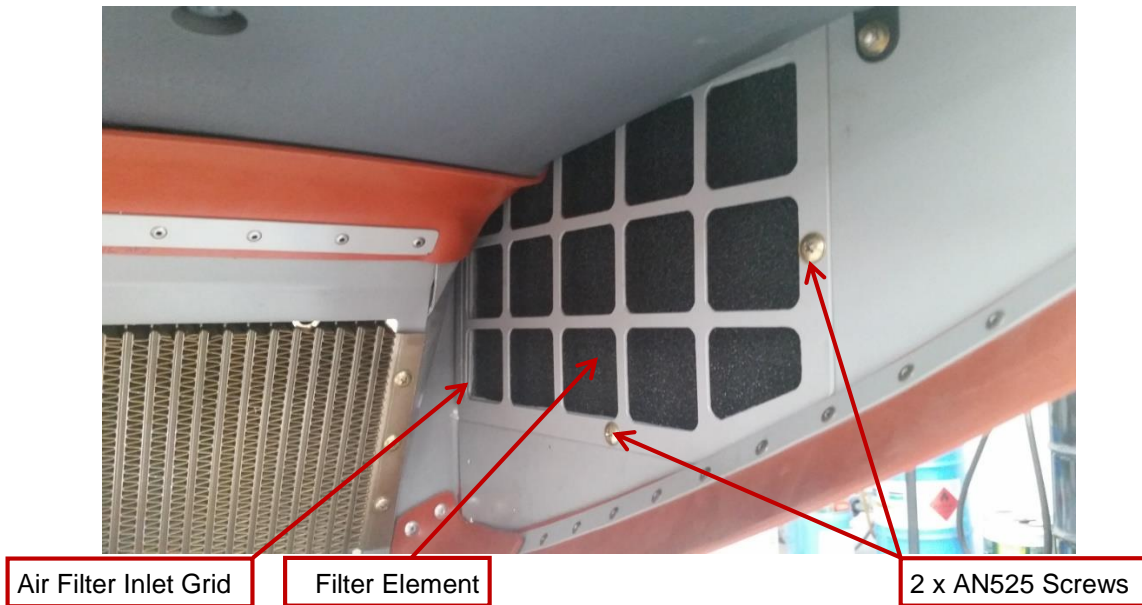

Figure 1 – GA8 Primary Air Filter
1. Remove two screws that secure the air inlet filter grid and stow, refer to Figure 1.
2. Remove the air inlet filter grid and stow, refer to Figure 1.
3. Remove the BA-7 standard filter element, refer to Figure 1.
12. Unfasten two screws and remove the air inlet filter grid, refer to Figure 1.
13. Remove the BA-7 standard filter element, refer to Figure 1